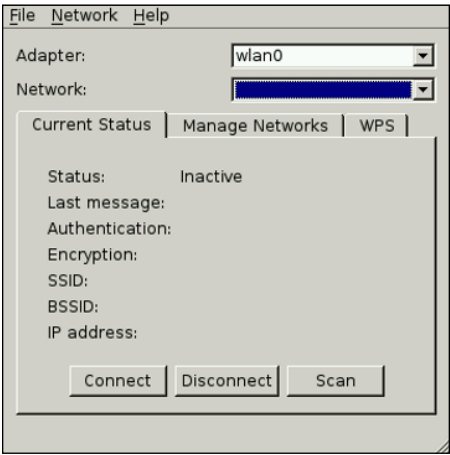

FIGURE 7-28: The Network Config window
- 3. Assuming that one of the listed APs is your own, double-click its line in the Scan window. The NetworkConfig window opens (see Figure 7-28). If you don't see your AP listed, your Raspberry Pi may be too far away, or there may be some configuration conflict.